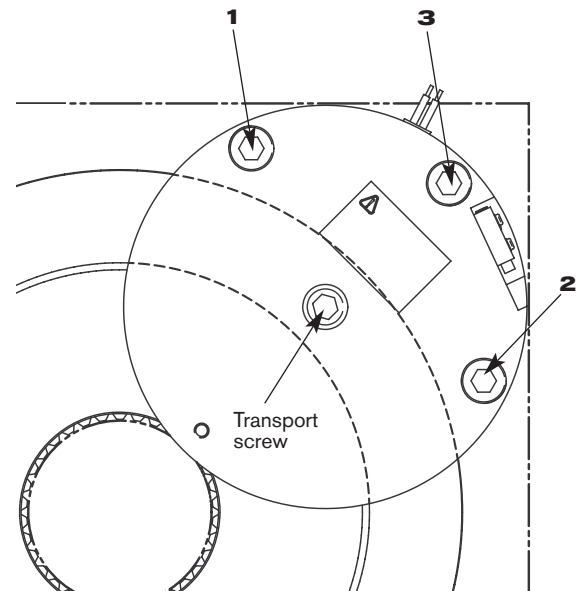

Fig. 3
Block these fixing screws using a tightening torque of 44 Nm $\pm 10\%$ respecting the following order : the highest screw (1), the lowest one (2) and, finally, the middle last one (3), see Fig. 3
- remove the transport screw, see Fig. 3.